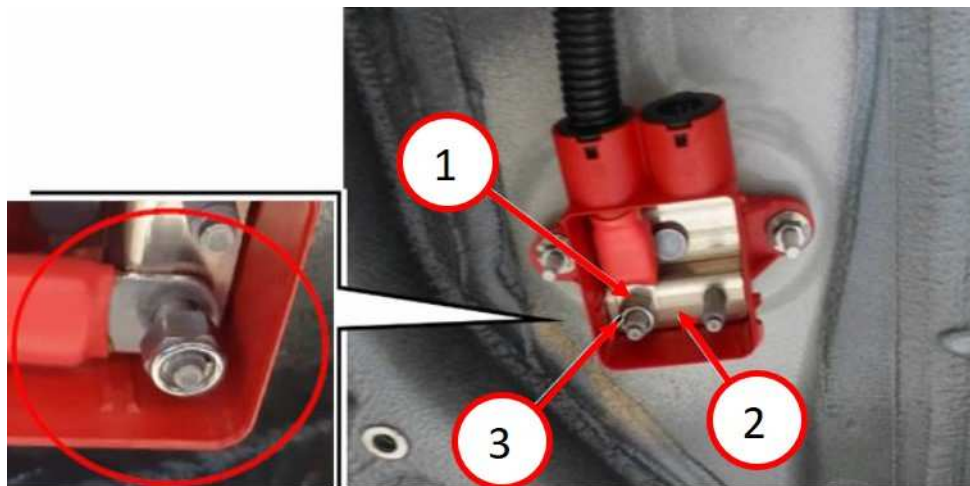

Fig. 3
- Using a torque wrench, check that the nut fastening the cable terminal (Fig. 3) of the low-voltage front wiring cable (from IDCM to 12V battery) to the junction node is tightened to a torque of 1.1 daN·m.